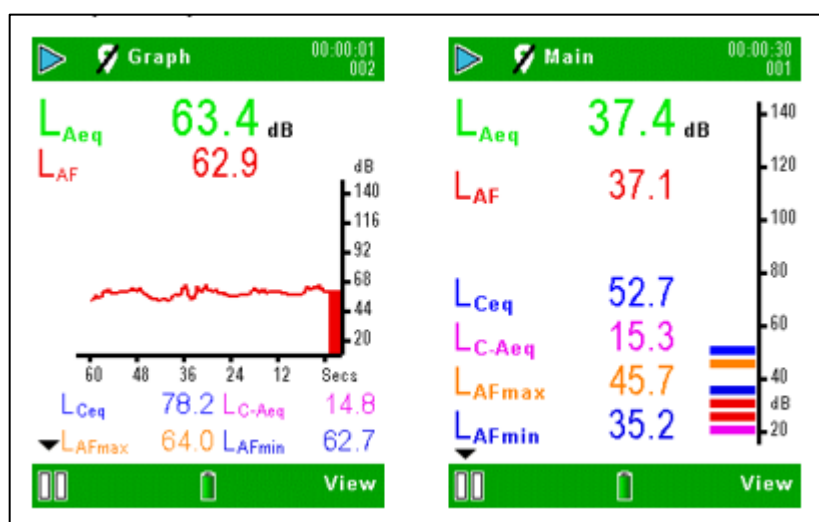

Figure 9 620A Run Screens
**For the 620A models** (refer to Figure 9), the broadband values can be viewed as a bar graph on the Main screen, or as a graphical time history on the Graph screen. Pressing the corresponding **View** soft key toggles between Graph and Main screens.